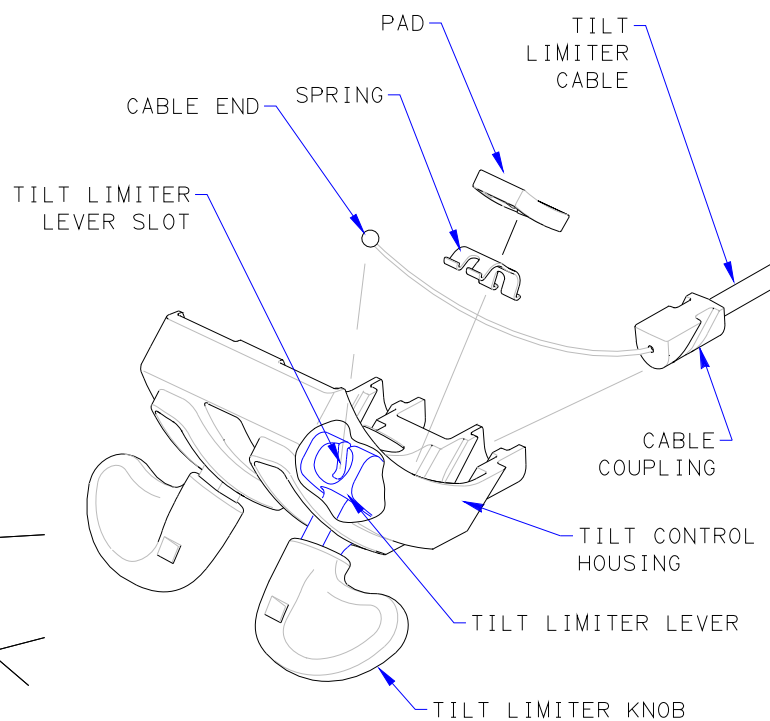

FIGURE 11
9. REMOVE AND SET ASIDE PAD AND SPRING FROM TILT LIMITER LEVER. REMOVE TILT LIMITER CABLE FROM TILT LIMITER LEVER. PROPERLY DISPOSE OF TILT LIMITER CABLE AND ATTACHED SECTOR GEAR. SEE FIGURE 11.
13. SLIDE REPLACEMENT TILT LIMITER CABLE COUPLING INTO SLOT IN TILT LIMITER LEVER. INSERT SPRING OVER CABLE INTO CAVITY OF LEVER. PLACE PAD OVER SPRING. SEE FIGURE 11.